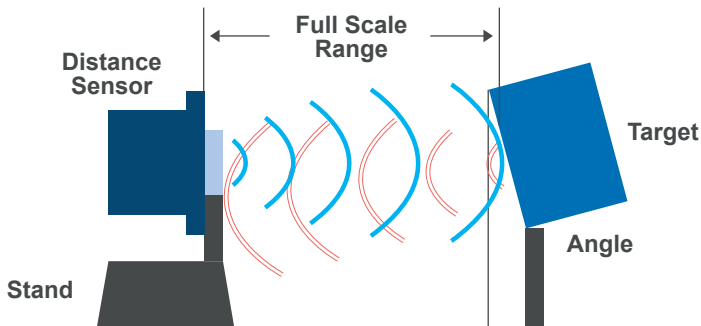

Figure 4: Setup for Skewed Target Performance Evaluations
Step 2: Rotate the target relative to the distance sensor and determine the fall off in range at ever increasing angles as shown in Figure 4.